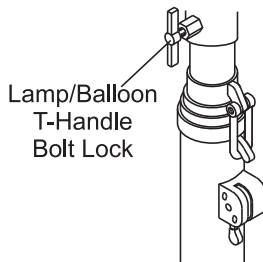

Figure 22. Loosening the Balloon/Lamp
1. Loosen the T-Handle Bolt Lock (Figure 22) that secures the lamp to the mast.